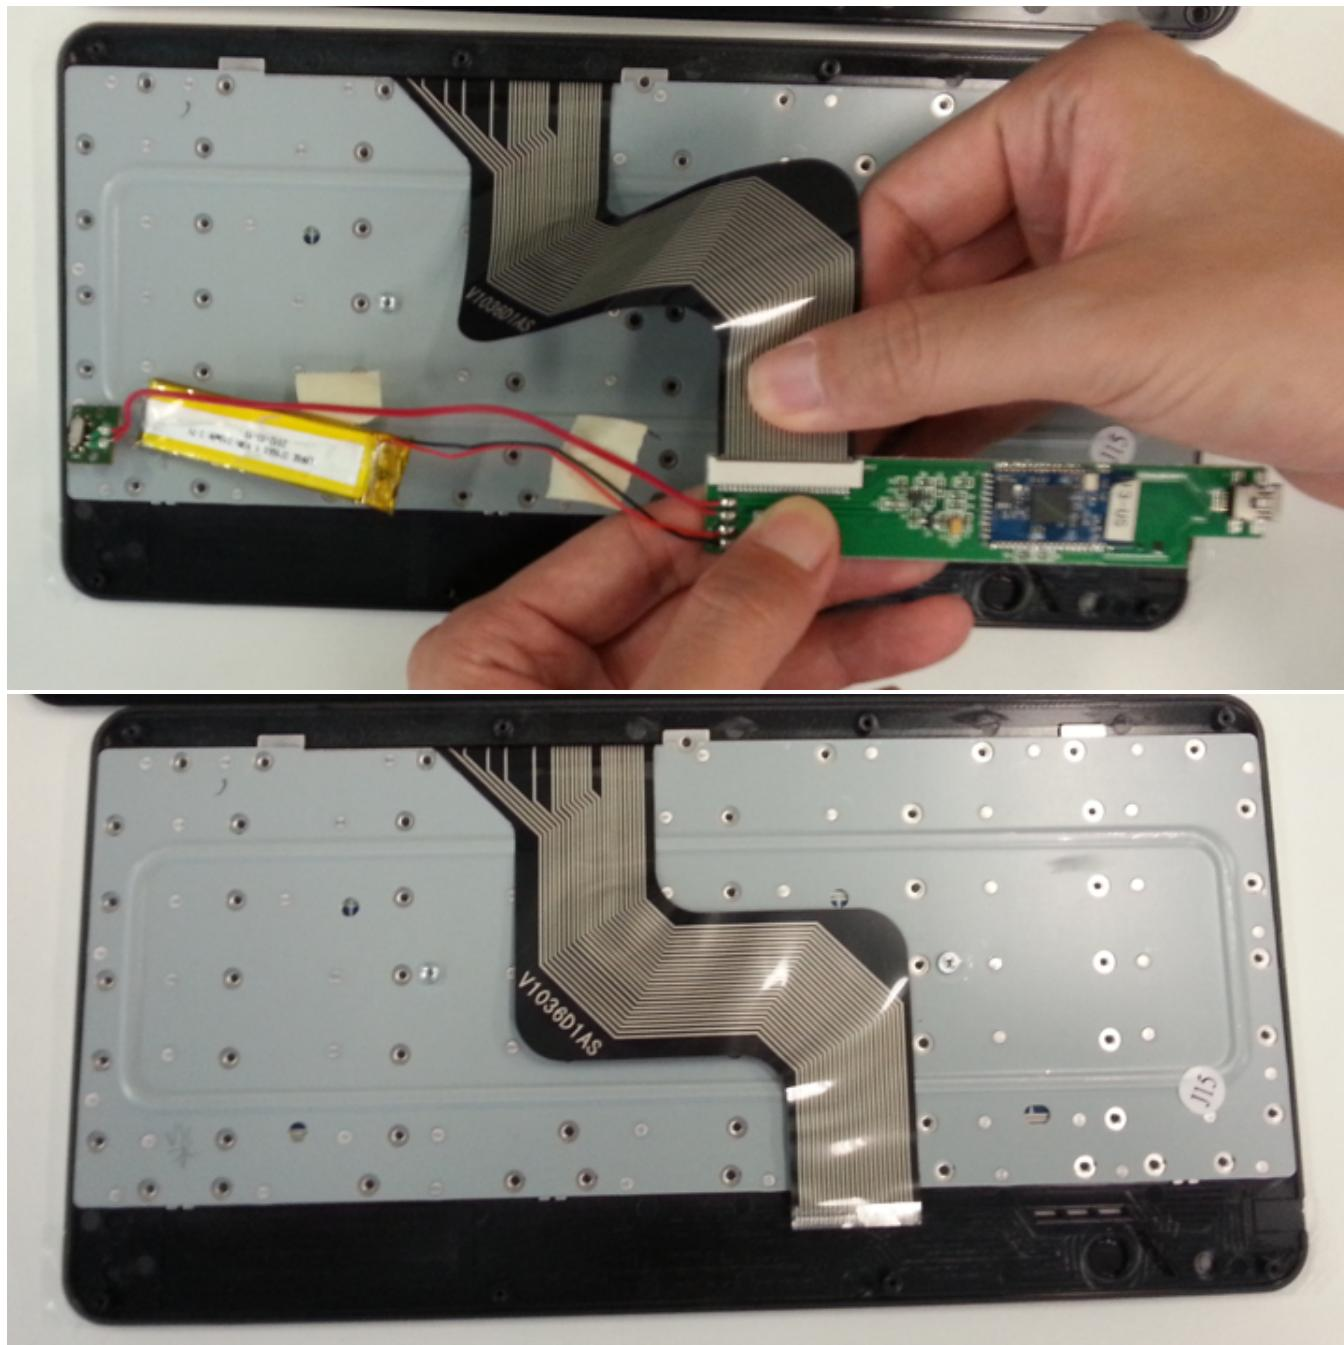

Figure 9. Detach the 26-Pin FPC
8. Detach the 26-pin FPC from the PCBA (see Figure 9).